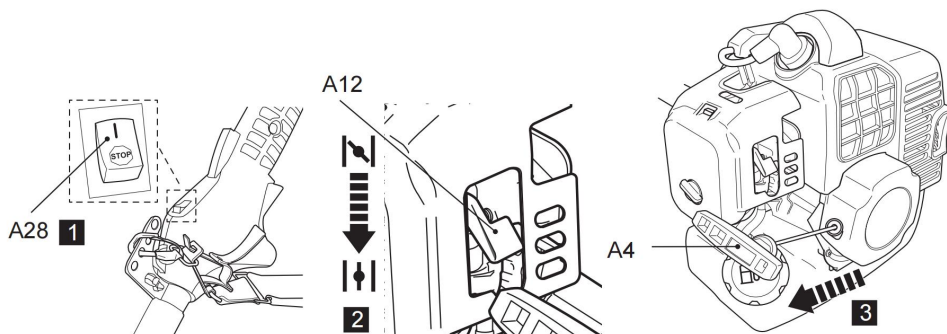

Fig. 40
5. Pull the recoil starter handle (A4) lightly until you feel resistance then pull it rapidly. Do it again until the engine starts (Fig. 40).